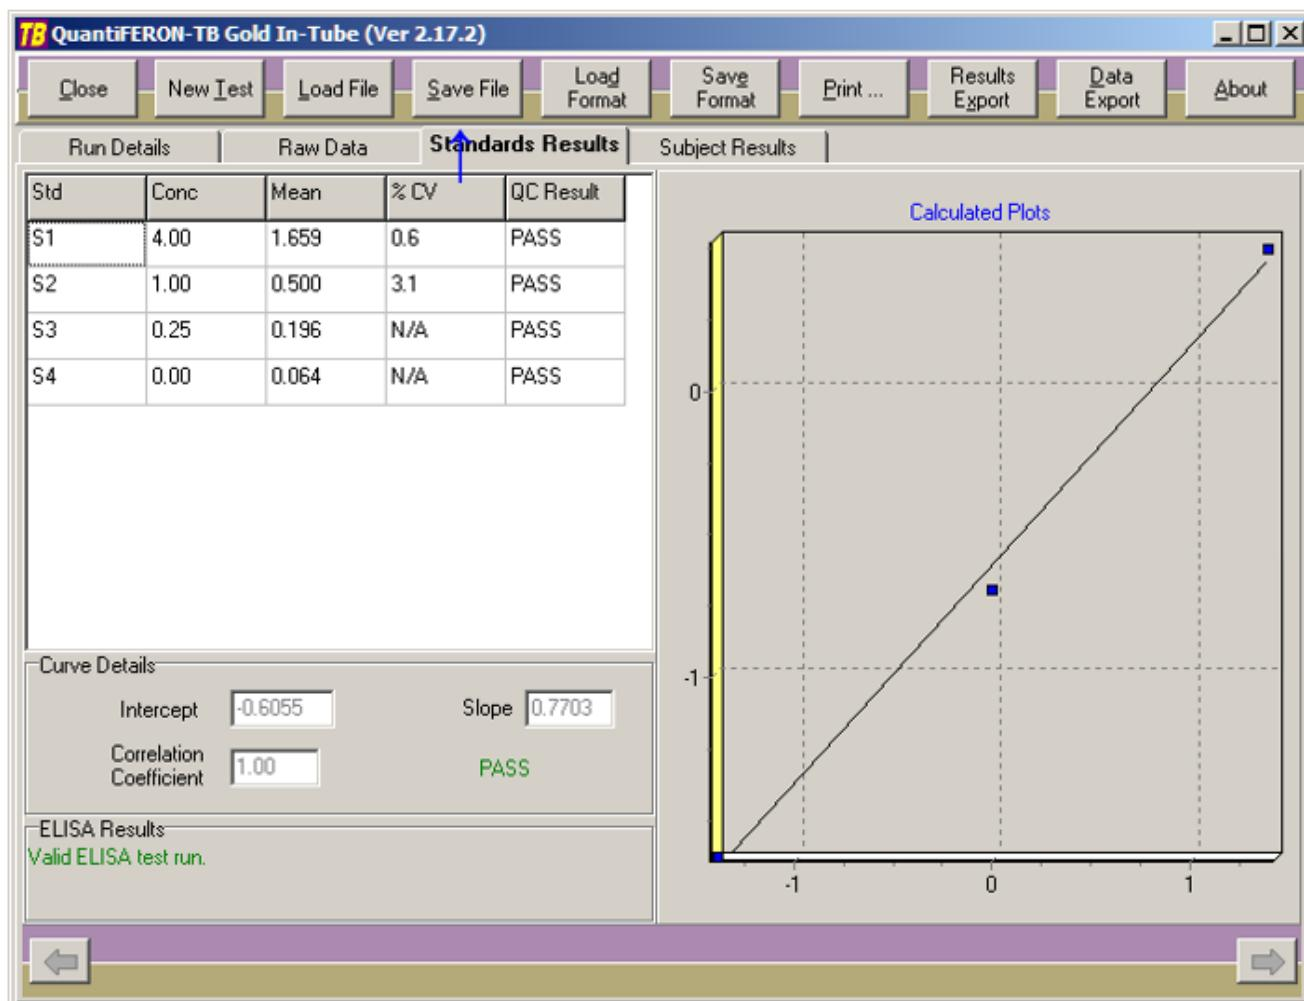

Figure 5
- 8) The results of the Quality Control acceptance criteria will be shown as PASS or FAIL. If any of the QC criteria are not met, the ELISA test is invalid and must be repeated (see package insert for further details of the acceptance criteria). Select the Save File button (Figure 5 ↑) to Save File as .qdf file. Use the following nomenclature “mmddyy QFTB- initials”.
10) Select the print button (Figure 6 ↑) to generate a report hard copy, then select Save File (Figure 5 ↑) (save as .pdf file). Use the following nomenclature "mmddyy QFTB- initials".